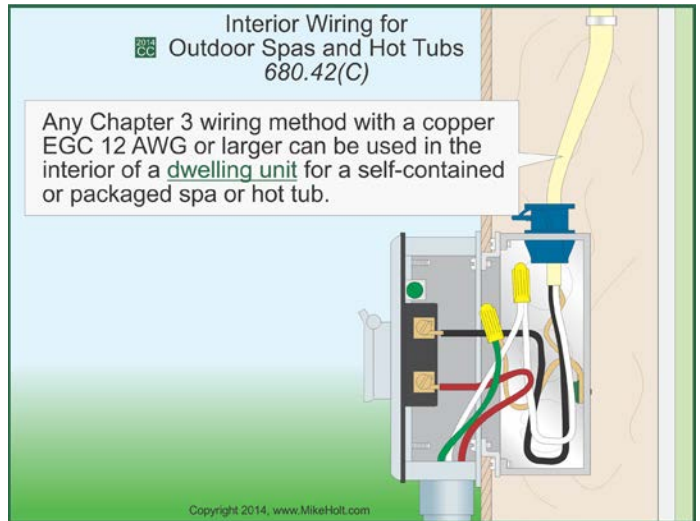

Figure 680-54
- (1) Listed as a self-contained spa for aboveground use.
- (2) Not identified as suitable only for indoor use.
- (3) Installed in accordance with the manufacturer's instructions and located on or above grade.
- (4) The top rim must be at least 28 in. above all perimeter surfaces that are within 30 in. measured horizontally from the spa or hot tub. Nonconductive external steps for entry to or exit from the spa can't be used to reduce or increase the rim height measurement.
(C) Interior Dwelling Unit Wiring for Outdoor Spas or Hot Tubs. Any recognized or permitted Chapter 3 wiring method containing an insulated copper equipment grounding conductor in a raceway or uninsulated within a cable and not smaller than 12 AWG in the interior of a dwelling unit for the connection to spa or hot tub equipment can be used for the connection to motor, heating, and control loads that are part of a self-contained spa or hot tub or a packaged spa or hot tub equipment assembly. Figure 680-54